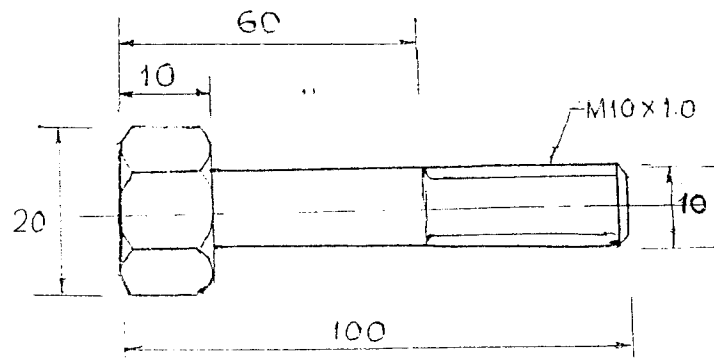

Fig. 3(c)
- c. Show the tool layout for the product shown in fig.3(c) for capstan lathe. (08 Marks)